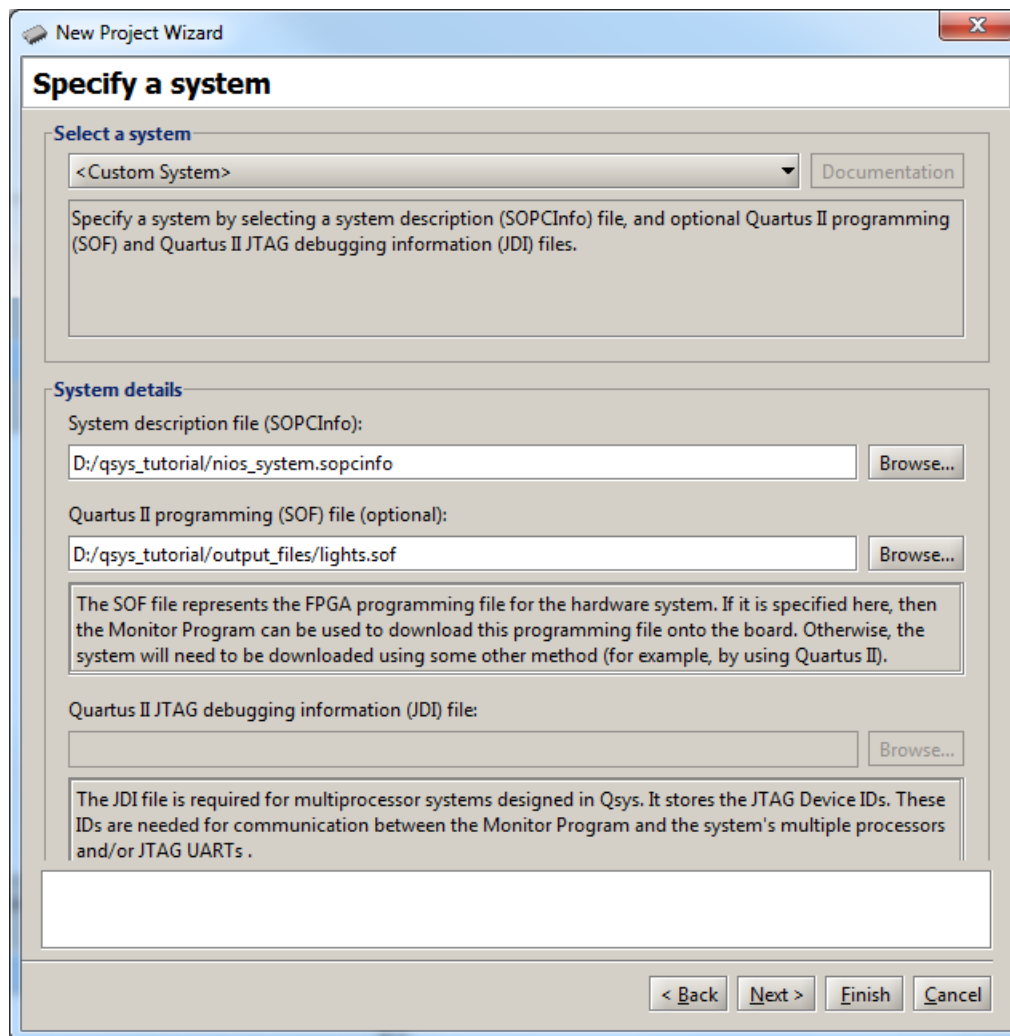

Figure 28. The System Specification window.
3. Select Nios II as the Architecture and click Next, leading to Figure 28.